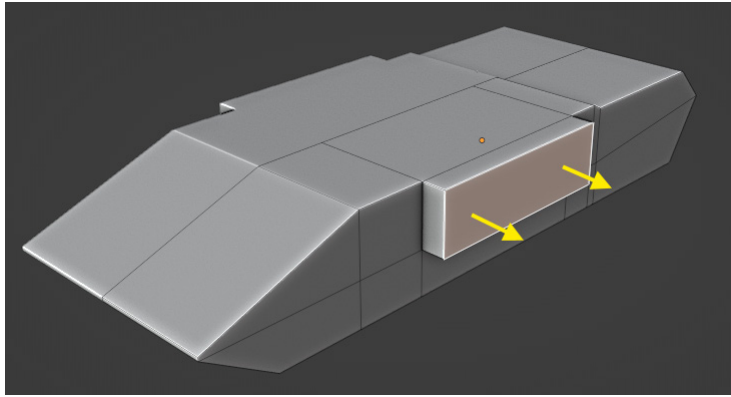

Figure 7.10 – Extruding the side
10. Press *E* to extrude a face on the side of the hull, as shown in *Figure 7.10*: